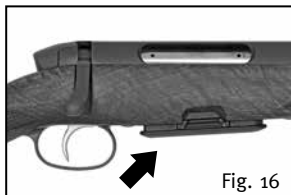

Fig. 16
1. First, make certain that the magazine has been removed or locked in second position (Fig. 16) and the weapon is unloaded!